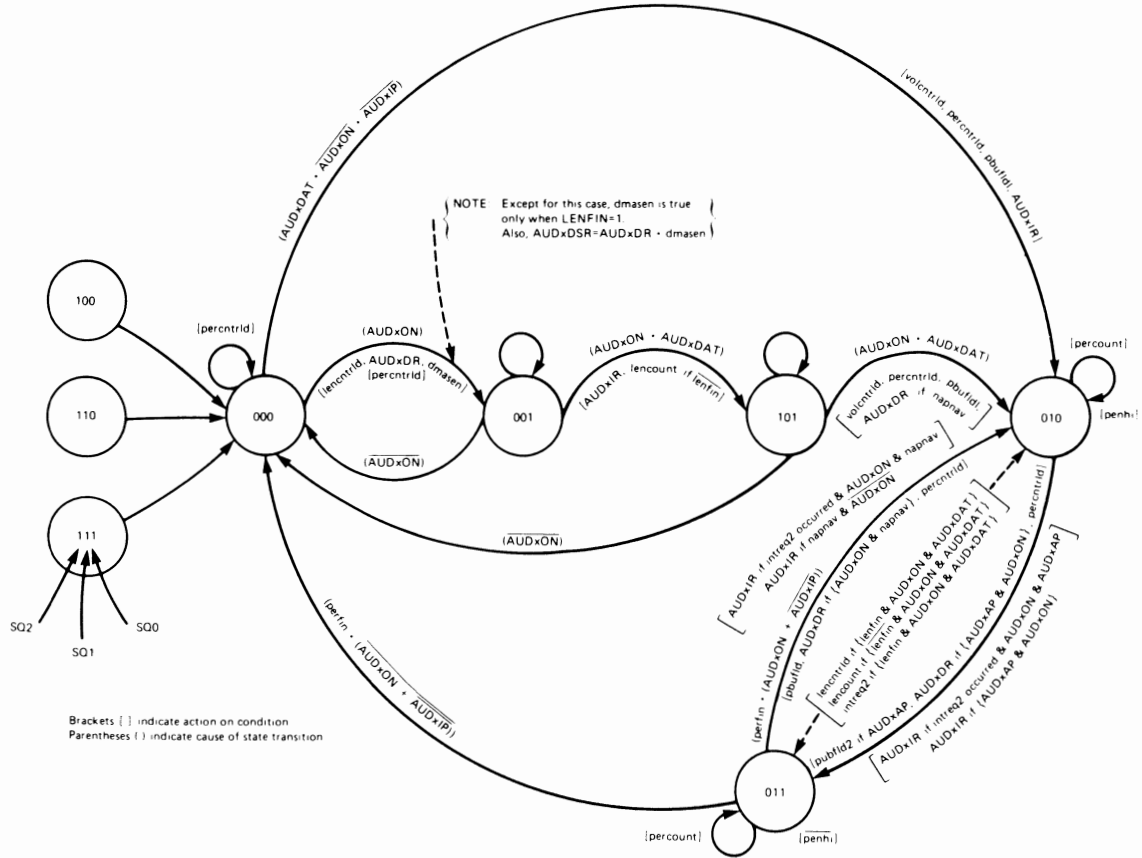

Figure 5-8: Audio State Diagram
For an explanation of the various states, refer to Figure 5-8. There is one audio state machine for each channel. The machine has eight states and is clocked at the clock constant rate (3.58 MHz NTSC). Three of the states are basically unused and just transfer back to the idle (000) state. One of the paths out of the idle state is designed for interrupt-driven operation (processor provides the data), and the other path is designed for DMA-driven operation (the “Agnus” special chip provides the data).